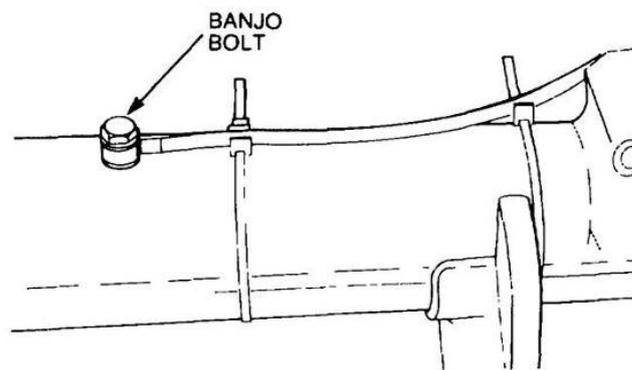

Figure 105 Removal of the Front Axle Breather Hose
- d. Remove the banjo bolt securing the breather hose to the front axle casing (Figure 105) and discard the sealing washers. Remove the zip-clamps securing the breather hose to the axle case and tie the breather hose out of the way.